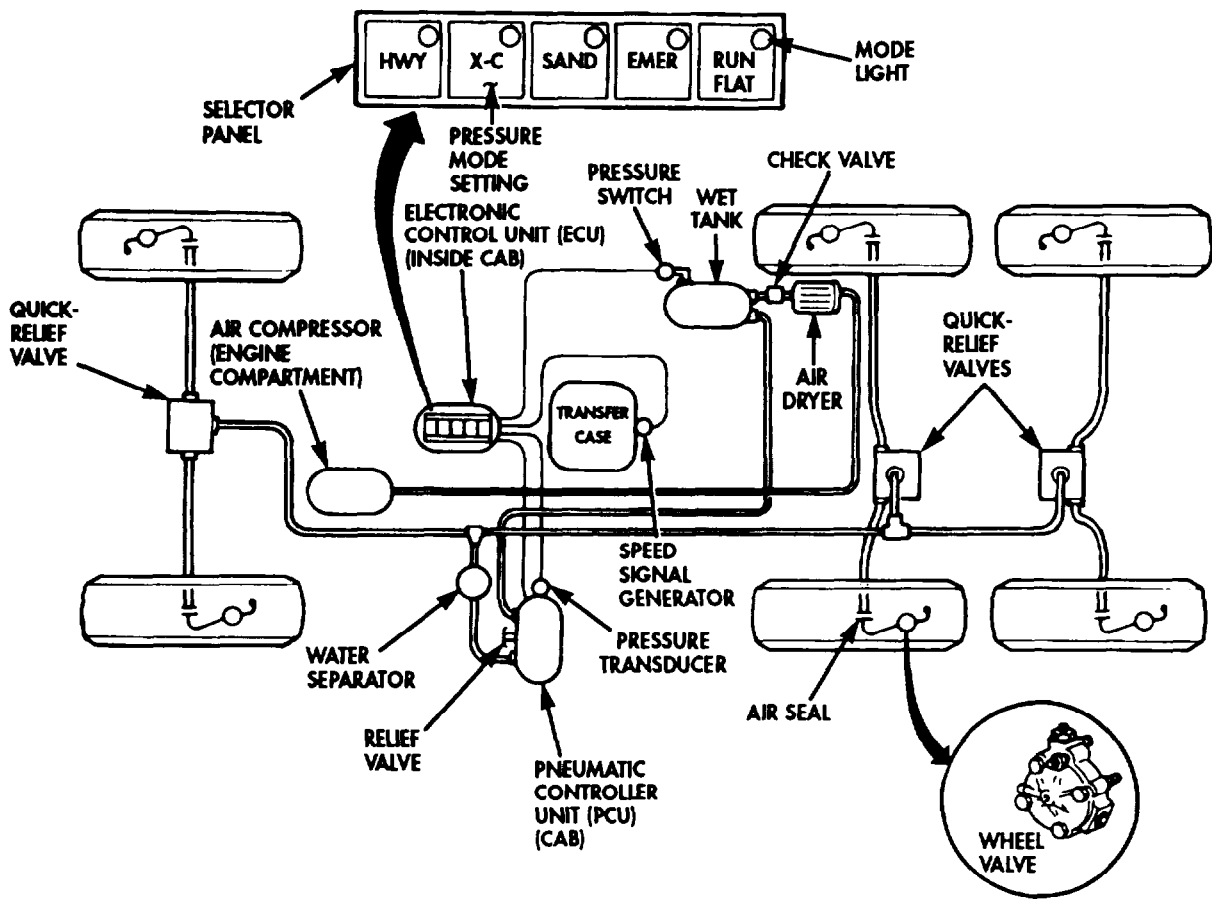

Figure 2-1. Functional Troubleshooting Diagram - Central Tire Inflation System (CTIS).
**b.** The Symptom Index, used in conjunction with the Functional Troubleshooting Diagram (Figure 2-1), is designed to direct the technician to the appropriate troubleshooting section where specific problems and solutions are listed.